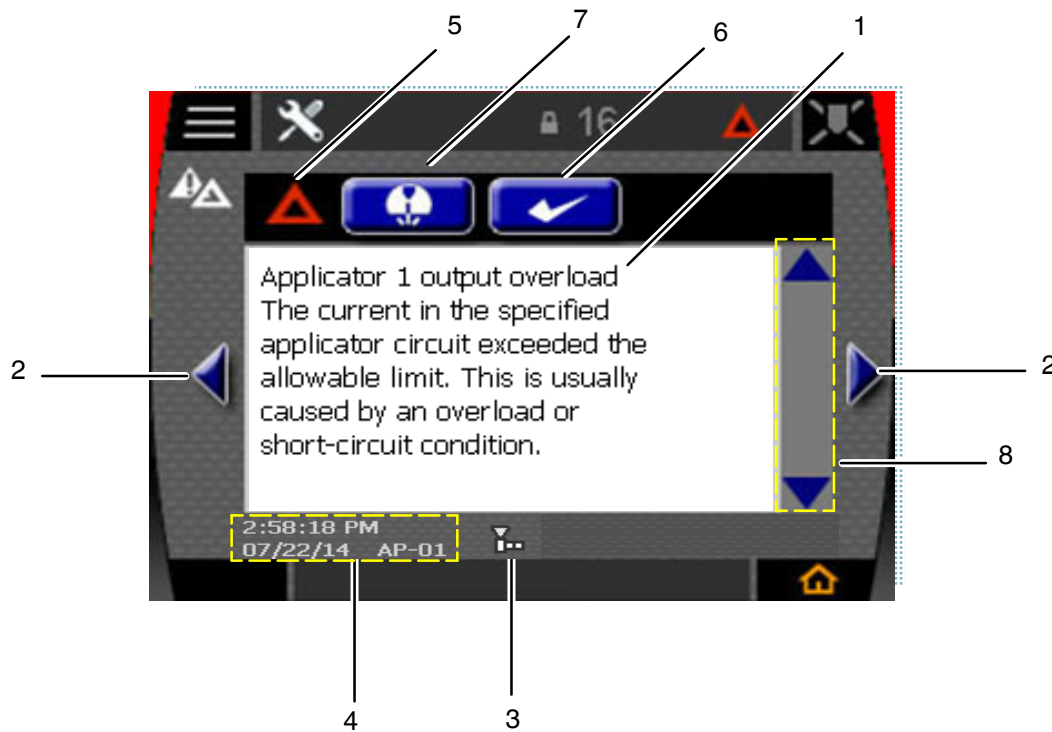

Figure 6-2: Message Log components
NOTE: When necessary, use the scroll bar (item 8 in Figure 6-2:) to see additional text. You can also slide your finger up and down in the message box.
The Message Scroll Indicator (item 3 in Figure 6-2:) shows the number of active and inactive messages and your current position in the log. This indicator contains a maximum of 25 messages.
The Message Status Indicator (item 5 in Figure 6-2:) provides the type and status of each message:
- To move to the next or previous message, use the left and right message navigation buttons (item 2 in Figure 6-2:).
- Each message includes a time and date stamp of the message along with a message code (item 4 in Figure 6-2:).
Tap the button (item 6 in Figure 6-2:) on the Message Log screen to acknowledge the message. After the alert or fault has been acknowledged, the background stops flashing. Depending on the type of fault or alert, holding the acknowledge button may also clear the fault or alert condition, sending it to the inactive section of the log.
See item 7 in Figure 6-2: for the location of the shortcut button. Depending on the type of events that occur, one of the following buttons appears on Message Log screen: